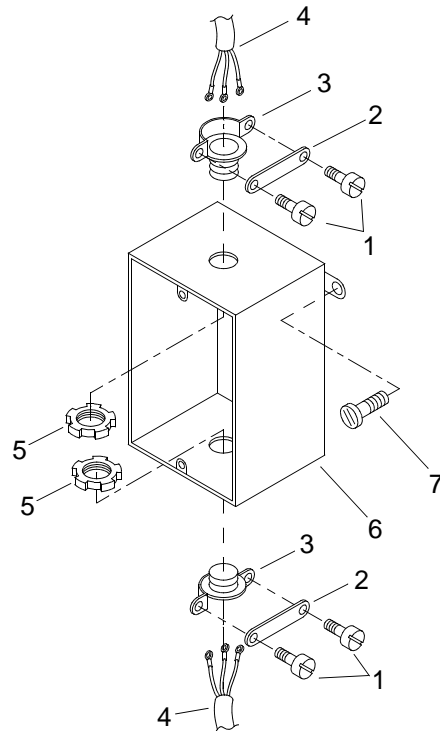

Figure 2. Outlet Box
2. Remove two screws (figure 2, item 1) and clamp (figure 2, item 2) from each strain relief (figure 2, item 3).
3. Pull wiring harness (figure 2, item 4) out through strain relief (figure 2, item 3).
4. Remove spanner nuts (figure 2, item 5) from strain relief (figure 2, item 3).
5. Remove strain relief (figure 2, item 3) from receptacle box (figure 2, item 6).
6. Remove two screws (figure 2, item 7) securing receptacle box (figure 2, item 6) to bulkhead. Discard receptacle box (figure 2, item 6).
7. Position new receptacle box (figure 2, item 6) on bulkhead.
8. Install two screws (figure 2, item 7) in junction box (figure 2, item 6) and secure to bulkhead. Tighten screws (figure 2, item 7).
9. Install strain relief (figure 2, item 3) in receptacle box (figure 2, item 6).
10. Install spanner nuts (figure 2, item 5) on strain relief (figure 2, item 3) and tighten.